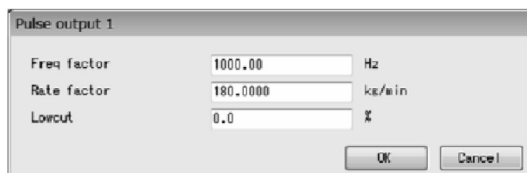

Fig.41
- ① Click the "Setup (S)" menu, and then select and click "Analog output 2" from the "Outputs" drop-down list.
- ② "Analog output 2" can be set by following the same procedures as described in 3.6.2.2 "Analog output 1", steps ② to ⑤ .
- ① Click the "Setup (S)" menu, and then select and click "Pulse output 1" from the "Outputs" drop-down list.
- ② The following window will be displayed (Fig. 41). Set pulse output 1 here.